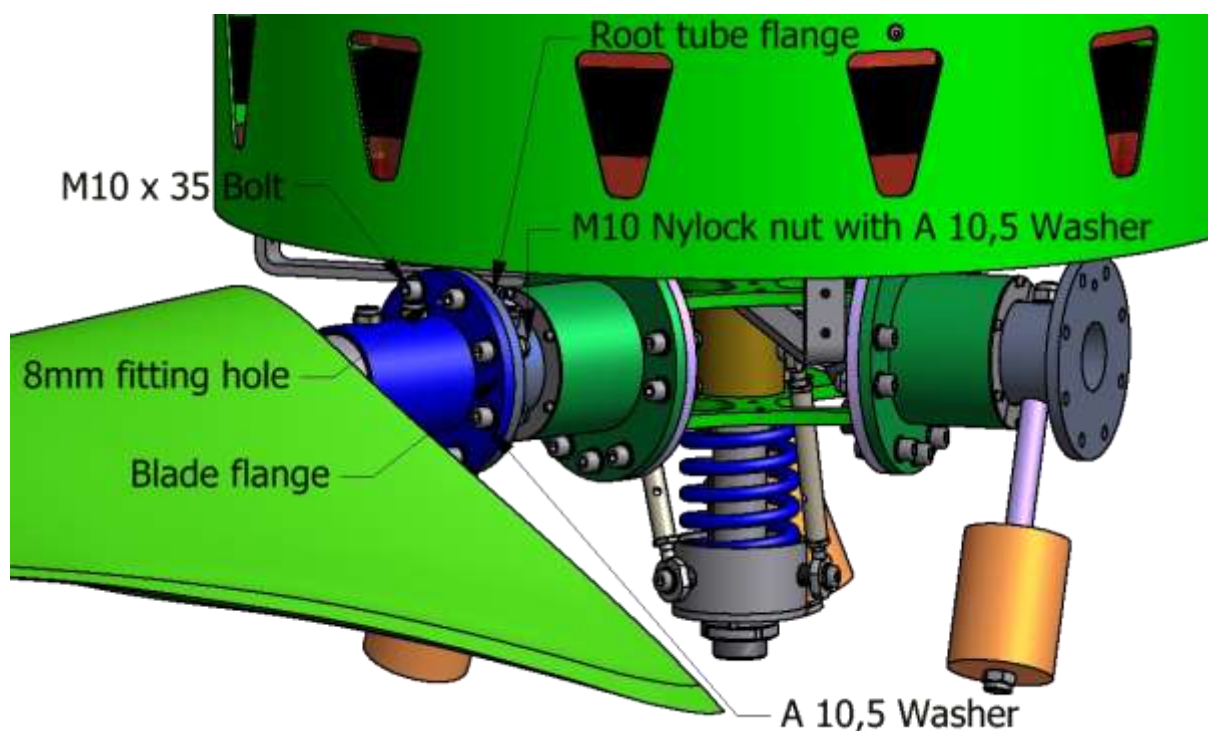

Figure 19- Placing the blades
1. Take a my!Wind blade and place it against the root tube flange. Align the 8 mm fitting holes in the blade flange and the root tube flange to achieve the right position for the blade (see Figure 19). NO BOLTS shall go through these holes.